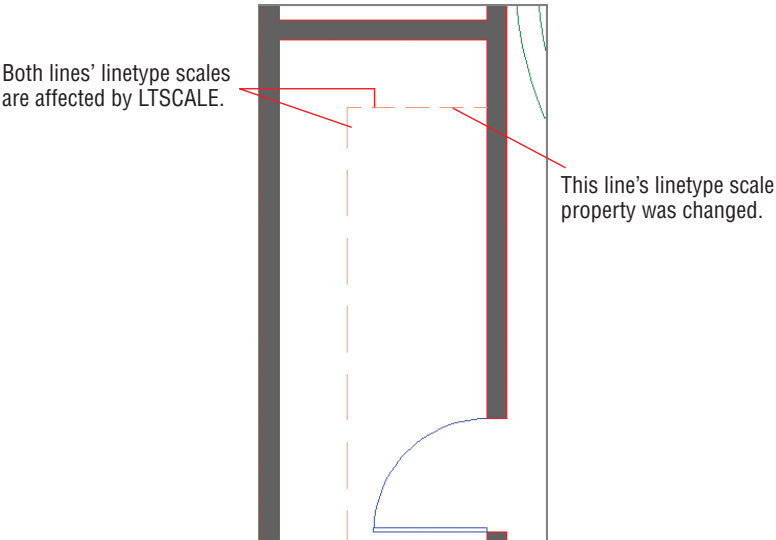

FIGURE 6.23 Scaling the linetype of an individual object
10. Press Esc to deselect the horizontal shelf line. The breaks in the horizontal line are half as large as those in the vertical segment (see Figure 6.23). Close the Properties panel.